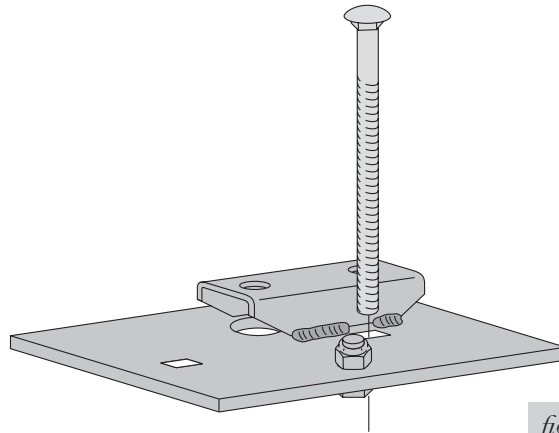

fig. 8
5. After determining and installing the appropriate stackup, insert one carriage bolt (N) into the forward hole of the lower bracket (Fig. 8).